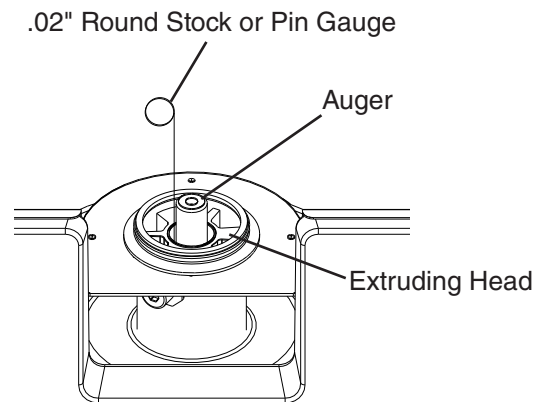

Fig. 7
- 6) Grasp the top of the auger and move the auger towards you and then try to insert a .02" round stock or pin gauge in between the back side of the auger shaft and the bearing surface. See Fig. 7. Check several locations around the auger shaft. If the gauge goes between the shaft and the bearing at any point or if the bearing is scratched or cracked, both the top bearing in the extruding head and the lower bearing in the housing should be replaced. Instructions for removing the extruding head and housing are located later in this procedure.